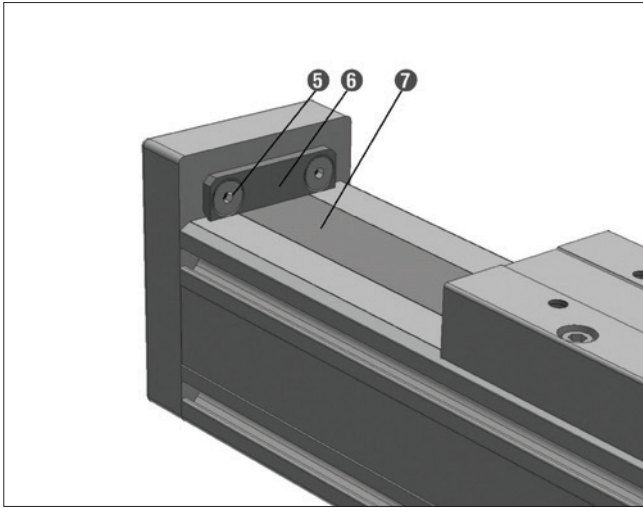
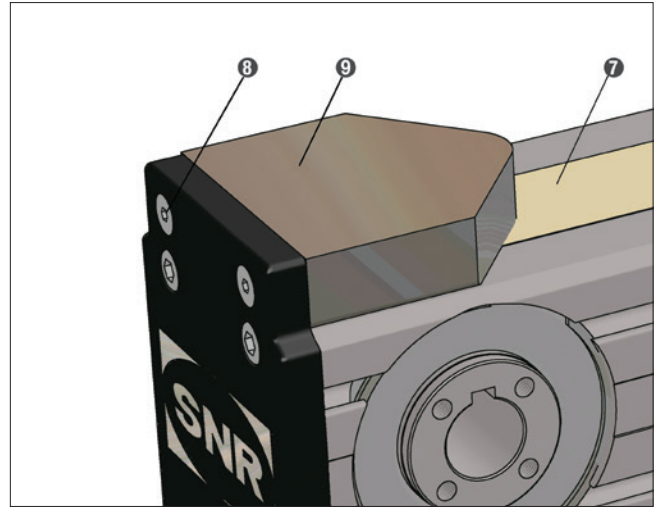

Figure 4.14 \_\_ Cover strip fastening for screw drive axis
Figure 4.15 \_\_ Cover strip fastening for toothed belt axis
2. For Linear Axis with screw drive (Figure 4.14), disassemble the screws of the cover strip clamping **3** and **5** and remove the clamping plates **4** and **6**. For Linear Axis with toothed belt drive (Figure 4.15), disassemble the fastening screws of the end position dampers **8** and remove the end position dampers **9**.